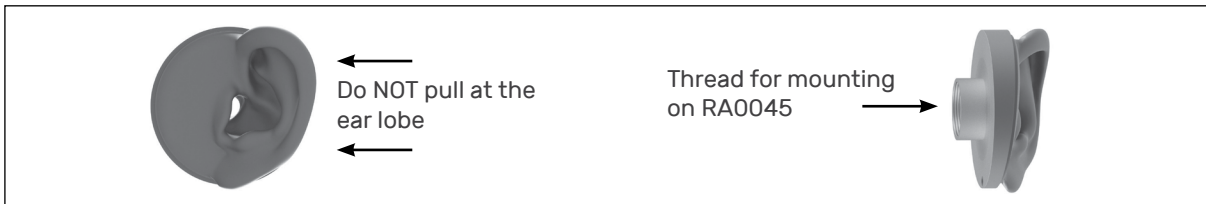

Fig. 5. Side and front view of a left anthropometric pinna.
4. Push the assembly into 45CA as far as it will go. Ensure that the pinna is tilted correctly (as described in the standard, e.g. the 60318-7), see also Fig. 5, the left part.